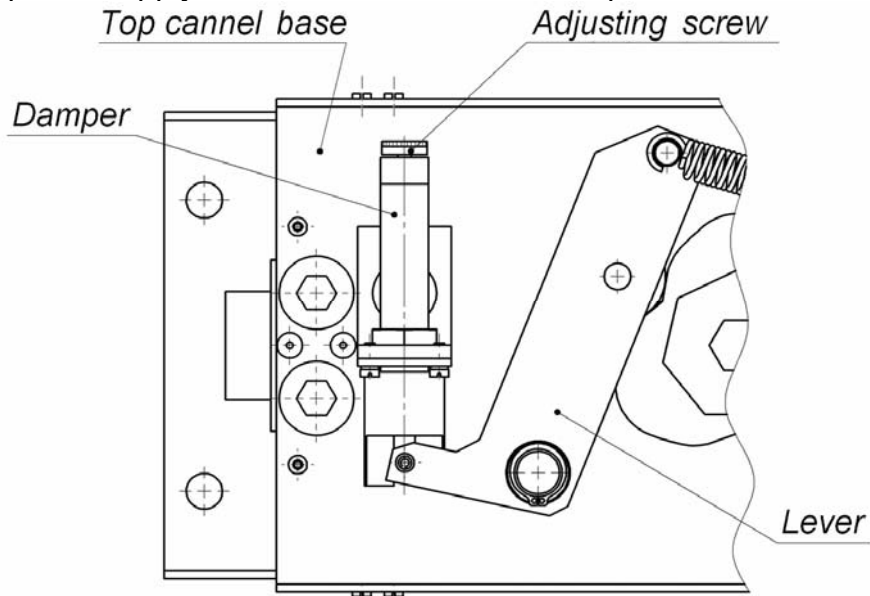

Fig. 21 The damper of the RTD-15.2 turnstile, located in the top channel (13) (top view)
2. undo the threaded pin at the end face of the damper adjusting screw (Fig. 21) with a S1,5 hex-nut wrench; adjusting screw of a damper mounted in the manufacture on the division 5 (average);
8. take the cover (14) on the top channel (13) and fix with the screws;